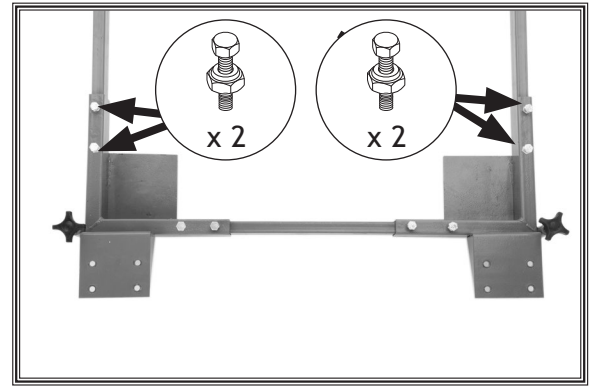

Figure 20. Rails fastened to brackets. (Machine removed from assembly for clarity.)
- Slide the other ends of the rails into the corner brackets from **Step 6**. Secure each end of the rails to the corner brackets with (2) M8-1.25 x 25 hex bolt and 8mm lock nut assemblies (see **Figure 20**).